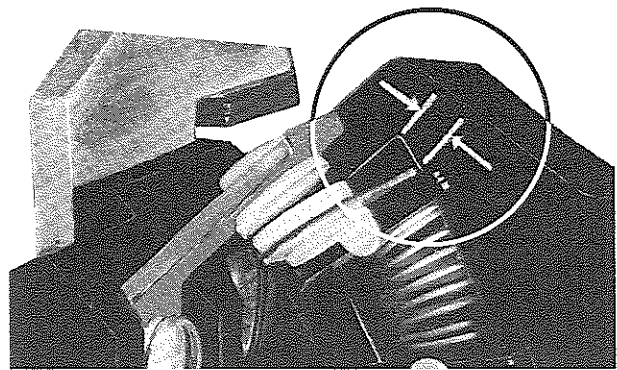

Figure 3
1. With all power removed, check that the electrical interlock (43) has the proper follow-up. With new electrical interlock contacts, the moving contacts (46) should provide at least 1/16" follow-up on each stationary contact when the contact arm reaches its limit of travel; either completely closed or completely opened (Fig. 3).